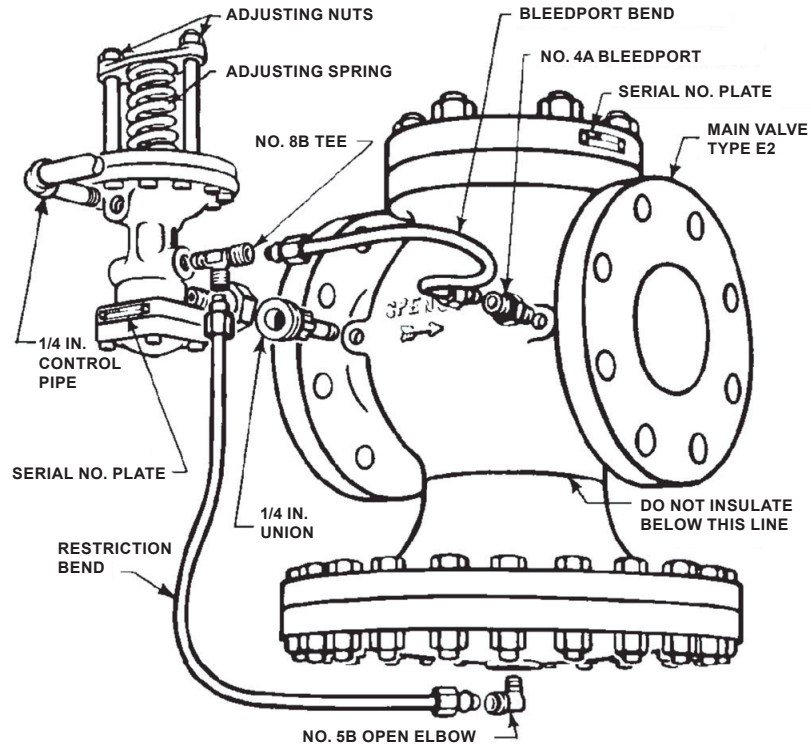

Figure 3. Mounting Pilot on Type E2 Main Valve
The regulator is operated by initial steam or fluid pressure. It is normally closed, being held so by initial pressure on the disc and by an internal main spring, see Figure 3. When the pilot is opened (see pilot instructions), initial pressure flows through the pilot to the 8B tee. 4A bleed port restricts the flow and pressure builds under the diaphragm and opens the main valve.
5. Connect tubing bends as illustrated in Figure 3.
2. Close pilot by releasing compression on adjusting spring. See Figure 3.